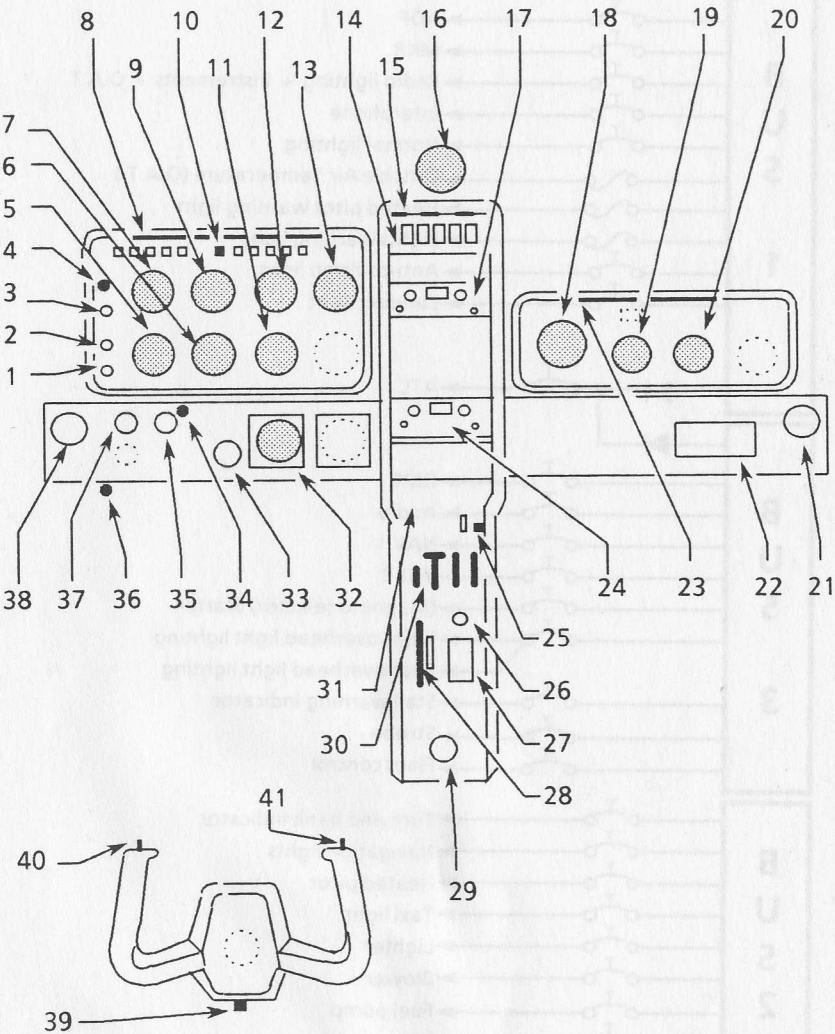

Figure 9.2.3 - EXAMPLE OF NARCO VERSION INSTRUMENT
- See Figure 9.2.3.
- Front overhead lights controlled by turning post lights, modifiable by "Emergency" control. See Figure 9.2.3.